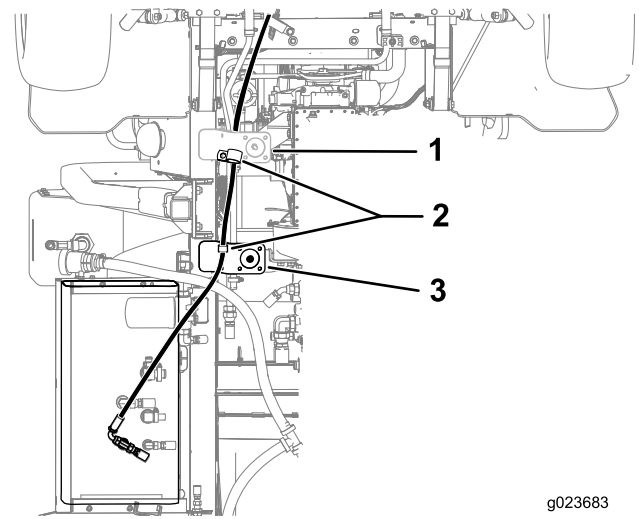

Figure 4
- 7. Secure the hose to the brackets on the machine using the 2 R-clamps (Figure 4).